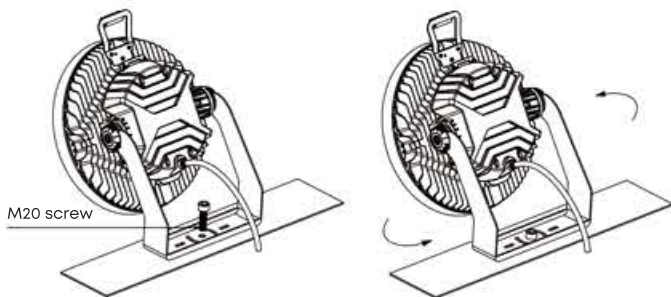

Figure-2 & 3
- 1) Fix the M20 screw on the pole of the site, and then adjust the bracket horizontally and fix according to the result from the software simulation, and then use the torque force of 685Nm to lock the M20 screw, as shown in Figure-2 & 3.